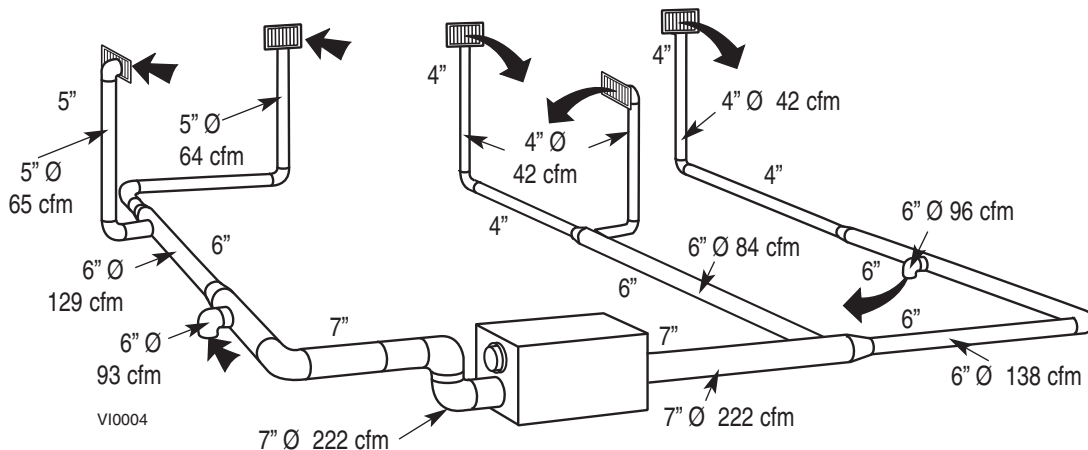

figure 8
7.3.2 Example of a design for a fully ducted system for a unit having a high speed performance of 222 cfm (see figure 8).